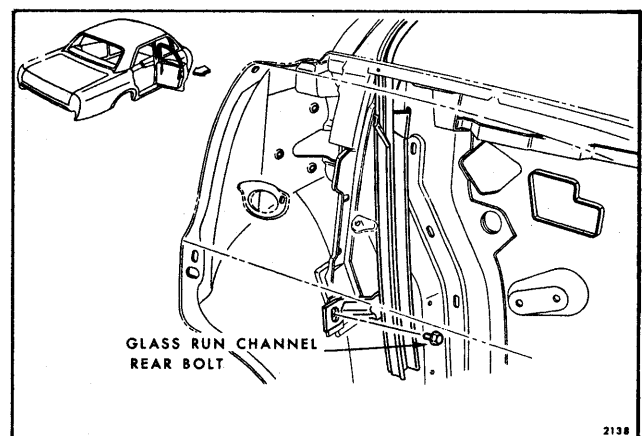

Fig. 7-151—Glass Run Channel Retention - "B" Closed Styles Except 45-46000 Series
- On all "B & C" Closed Styles except 45-46000 Series, remove glass run channel rear attaching bolt (Fig. 7-151).